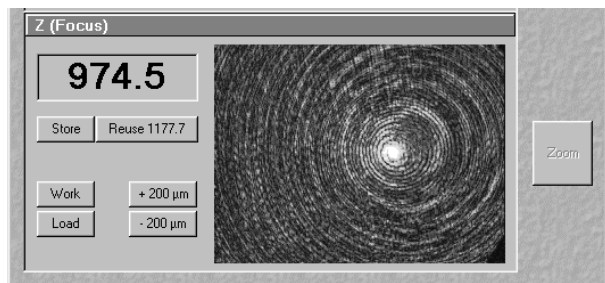

Fig. 5-169 Camera image near the lower cover slip surface
- If the focus position approaches the lower cover slip surface, the camera window looks similar to (Fig. 5-169).